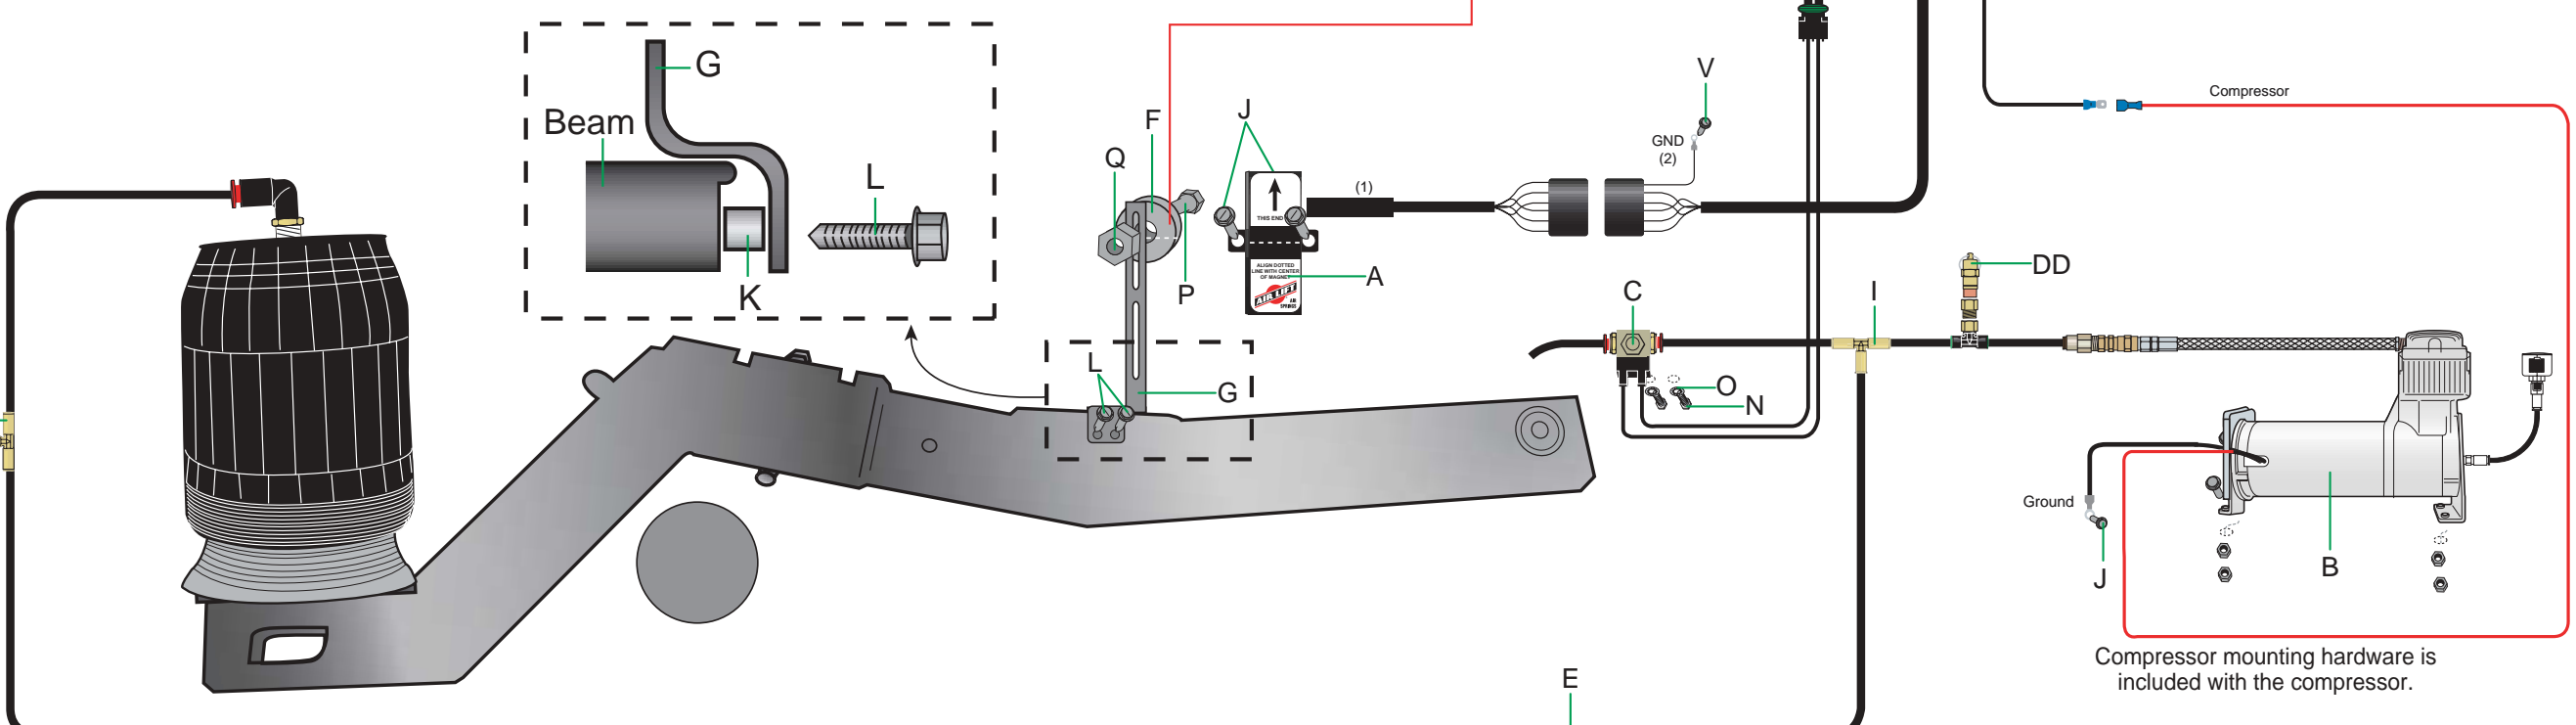

Figure 4
- Using a butt connector, attach the 12 gauge wire from the terminal 30 on the back of the relay to one end of the 30 amp fuse holder (Figure 4).
- Using the black wire with two female ends, connect one end to terminal 1 of the kneeling switch and the remaining end to terminal 86 of the relay (Figure 4).
- Connect the black ground wire to terminal 2a of the kneeling switch and attach the ground terminal to a suitable ground using the provided self-tapping screw (Figure 4).
- If choosing to use the ring terminal, attach it to the other end of the fuse wire (Figure 4).
- Detach the black wire with the red dot from terminal 86 of the relay and connect it instead to terminal 1b of the kneeling switch (Figure 4).